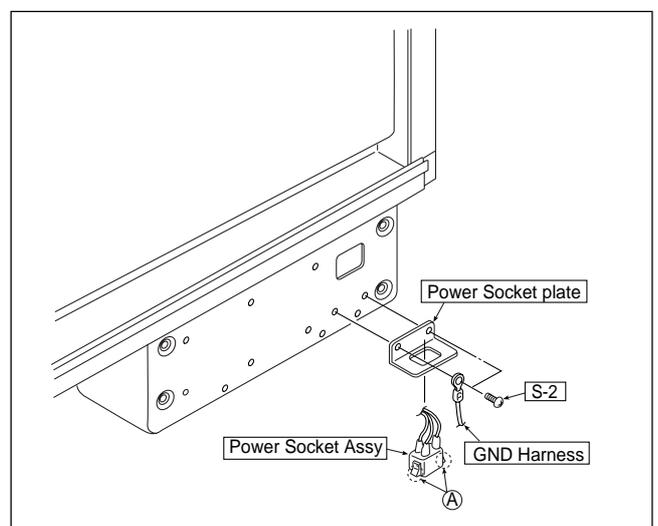

Fig. 7
### 6) Remove the Power Socket Assy. (See Figure 7.)
1. Remove the "S-2" screws as shown in Figure 7. (Tightening torque :  $8 \pm 2.4$ kgfcm)
3. Remove the Power Socket Assy from the Power Socket Plate. (Push the hook as shown in portion A of Figure 7.)